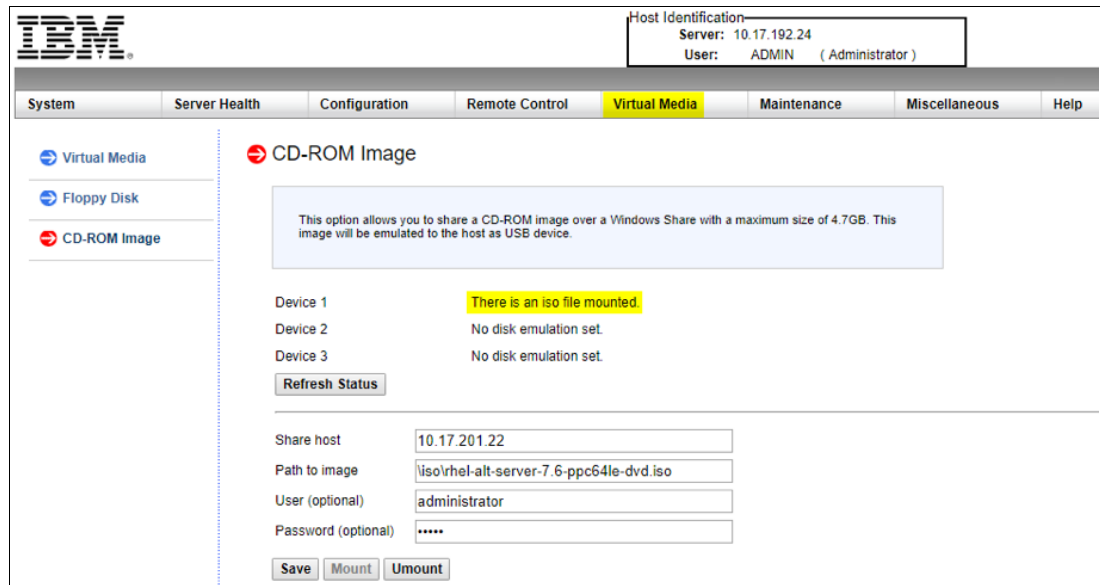

Figure 4-25 BMC Advanced Systems Management interface window
6. Click **Refresh Status**, as shown in Figure 4-25.